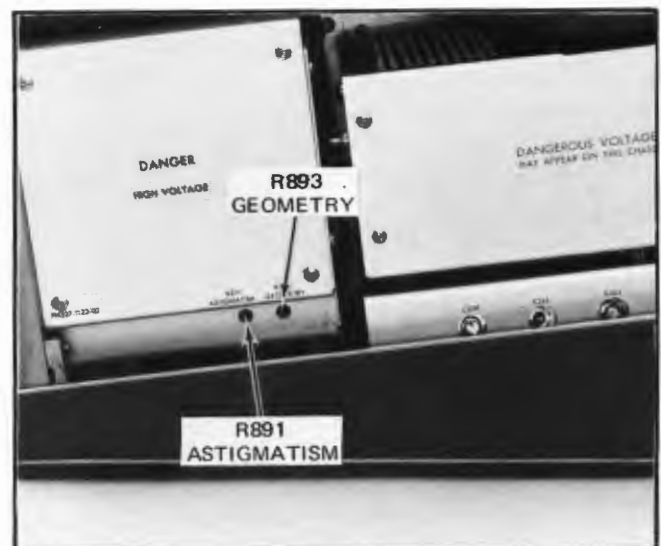

Fig. 5-4. Location of adjustments in step 5.
c. ADJUST—R891, ASTIGMATISM adjustment on the operator's left side of the instrument (see Fig. 5-4), if the spot is not circular.
v. ADJUST—R893, GEOMETRY adjustment on the operator's left side of the instrument (see Fig. 5-4), for minimum bowing of trace.